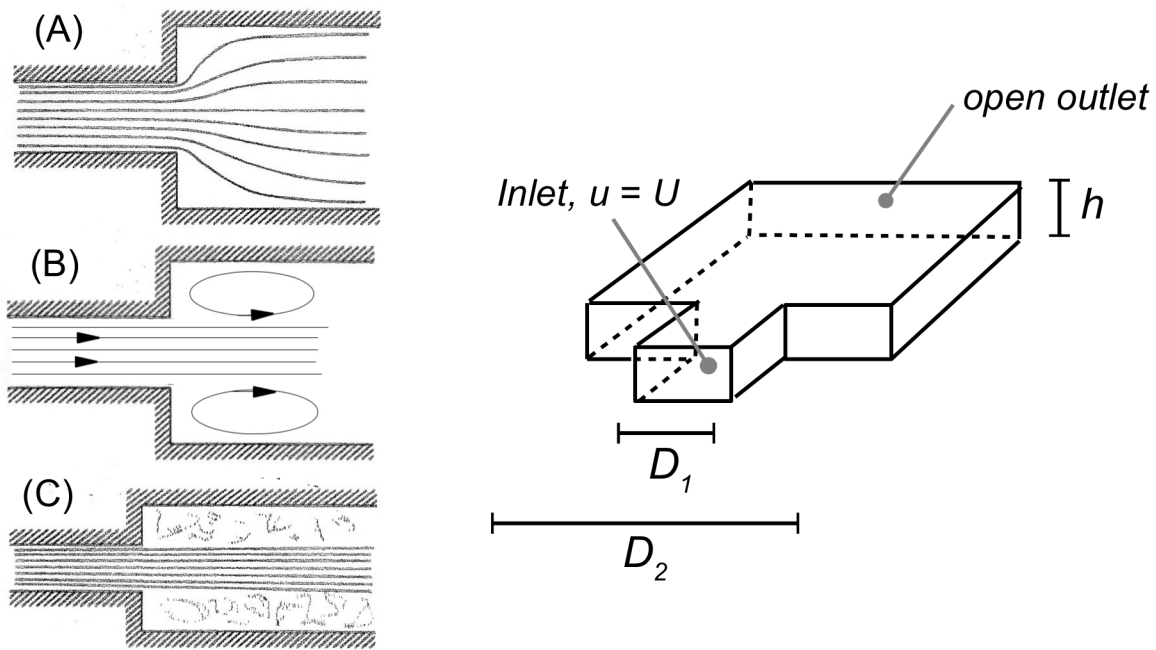

Fig. 1
Background: In our discussion of the Hele-Shaw flow, it was argued that when $Re(h/L)^2 \ll 1$, the fluid system behaves somewhat like a 2-D irrotational flow with the stream function governed by Laplace's equation. Here, Re is Reynolds number, h is the vertical separation between two plates, and L is the horizontal scale of the flow. Since the solution of Laplace's equation cannot have a local maximum or minimum in the interior of the domain, it implies that there cannot be a closed streamline or separation of the flow. For example, Case (A) as shown in Fig. 1 (modified from Fig. 7.9 in the textbook) is typical of a Hele-Shaw flow, while Case (B) is not allowed for such a flow. If the condition, $Re(h/L)^2 \ll 1$, is not satisfied but the flow has a small to intermediate Reynolds number, one may expect a typical laminar flow like Case (B). At a higher Reynolds number, the flow eventually becomes turbulent, close to Case (C).
Task: Use Ansys-Fluent to simulate a flow through a 3-D two-section channel as shown in the right panel of Fig. 1. A uniform velocity, $u = U$, is imposed at the narrow *velocity inlet*. An *outflow* boundary condition is imposed at the wider outlet as shown. A no-slip boundary condition for the velocity is imposed at all solid walls. The flow is incompressible with constant density and viscosity. With all other parameters fixed, when h is very small or when viscosity is very high (such that $Re(h/L)^2 \ll 1$ is satisfied) the system is expected to approach a Hele-Shaw flow. With a reduction in viscosity or an increase in h , the flow may transition from Hele-Shaw (Case (A)) to a typical viscous flow with an intermediate Reynolds number (Case (B)). Your simulations will focus on the flow regimes of Case (A) and (B), before the flow becomes turbulent. (This will require some adjustments of the inlet velocity, etc.) The following are the key tasks to complete:
- (1) Demonstrate a pair of simulations which differ only in h and which show contrasting behaviors of Case (A) (under a smaller h) vs. Case (B) (under a larger h). Clearly describe the setup of the runs, including the values of all of the external parameters (inlet velocity, viscosity, all relevant dimensions of D_1 , D_2 , h , and the stream-wise length of the two segments of the channel). Is the condition, $Re(h/L)^2 \ll 1$, satisfied for the simulation that exhibits the "Case A" behavior?
- (2) Take the specific simulation in Part (1) that behaves like Case (B) and increase the viscosity (but keep everything else fixed) until the flow transitions to Case (A). Record the value of the viscosity for this case. Is the condition, $Re(h/L)^2 \ll 1$, satisfied for this case?
- (3) In (1) and (2), when a "Case A" type of flow pattern is produced by a simulation, we expect that the condition, $Re(h/L)^2 \ll 1$, is satisfied. Yet, a question remains whether one should use D_1 or D_2 as the horizontal length scale, " L ", in that condition. Note that D_1 is the width of the fluid jet that is being injected into the wider channel, while D_2 is the width of the wider channel itself (or, the largest possible horizontal extent of the flow). Analyze the results of Part (1) and (2) and design/perform additional simulations to address this issue. For example, with a fixed D_2 , would it be more difficult to create a "Case A" type of flow with a decreasing D_1 ? What would be the behavior of the flow (close to Case A or Case B) when $h \approx D_1 \ll D_2$?